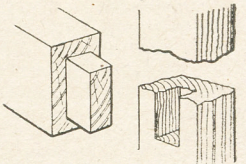
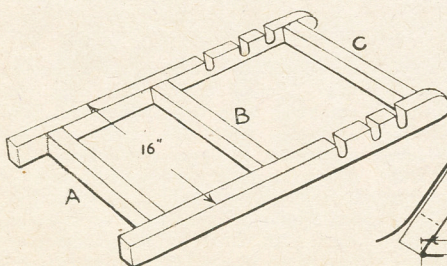
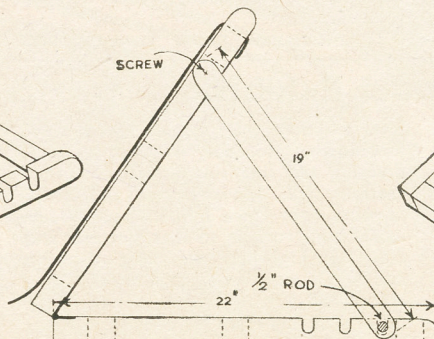

Fig. 4—The tenon joint
Fig. 2—The frame on the ground
Fig. 3—Side view showing adjustable back and slots
The serviceable wood to use would be American Whitewood, beech or birch, all both close grained and hard of surface. The ground frame can first be taken in hand, and the detail Fig. 2 gives a good idea as to its form and construction. The side view, Fig. 3, of the Rest shows this frame in position with the back rest and support frame in place.
The method of making the stub tenon is shown in Fig. 4, the ends of the cross rails being shouldered and with the tenon running half way through the long rails. The cross rail (A) in Fig. 2 should stand 2ins. in from the ends of the long rails, while rail (B) should be 6ins. from (A). The end rail (C) should be at least 1in. away from the rounded ends of the side rails.
Recesses into which the round rod of the support frame must rest, are made as shown in Fig. 3. Each recess is $\frac{3}{4}$ in. deep with rounded end and should be
The back frame to which the canvas covering is later attached, is shown in Fig. 4. This frame is exactly the same width as the ground frame, viz., 16ins. full width with a space of 13ins. in between rails. Note the positions of the three cross rails in this frame. The middle rail is $9\frac{1}{2}$ ins. up from the square ends of the side rails. The cross rails are 2ins. by $1\frac{1}{2}$ ins. in section, while the side rails are $1\frac{1}{2}$ ins. square, and all stub tenoned and mortised together just like the ground frame. Take off all sharp edges and corners of all the rails with glasspaper.
Both frames having been completed, the next job is to hinge them together. A pair of $1\frac{1}{2}$ in. brass hinges should be strongly attached to both frames in the manner shown in the side view Fig. 3. The flaps of the hinges are cut in or recessed so they lie flush with the surface of the rails.